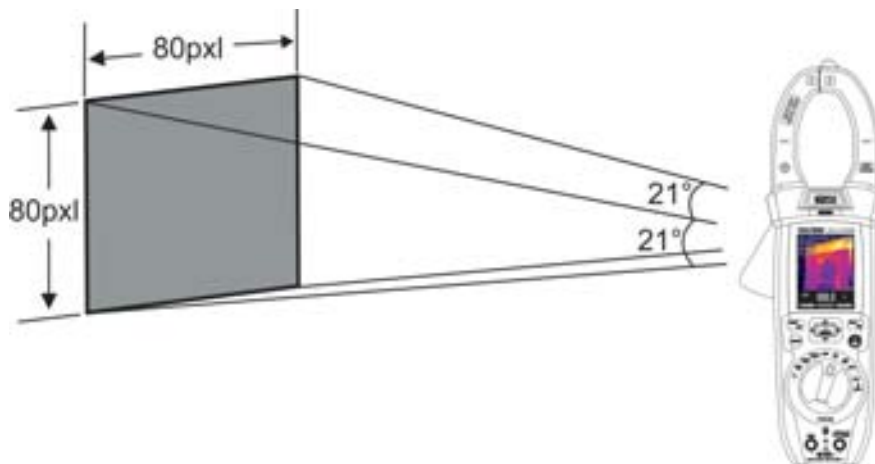

Fig. 43: Representation of the field of view (FOV) of ECLIPSE
7. For accurate temperature measurements, make sure the surface of the measured object is always bigger than the surface measurable by the instrument, which is given by the instruments field of view (FOV). ECLIPSE has a field of view of $21^\circ \times 21^\circ$ and a detection vector of 80×80 (6400) pxl, as described in Fig. 43